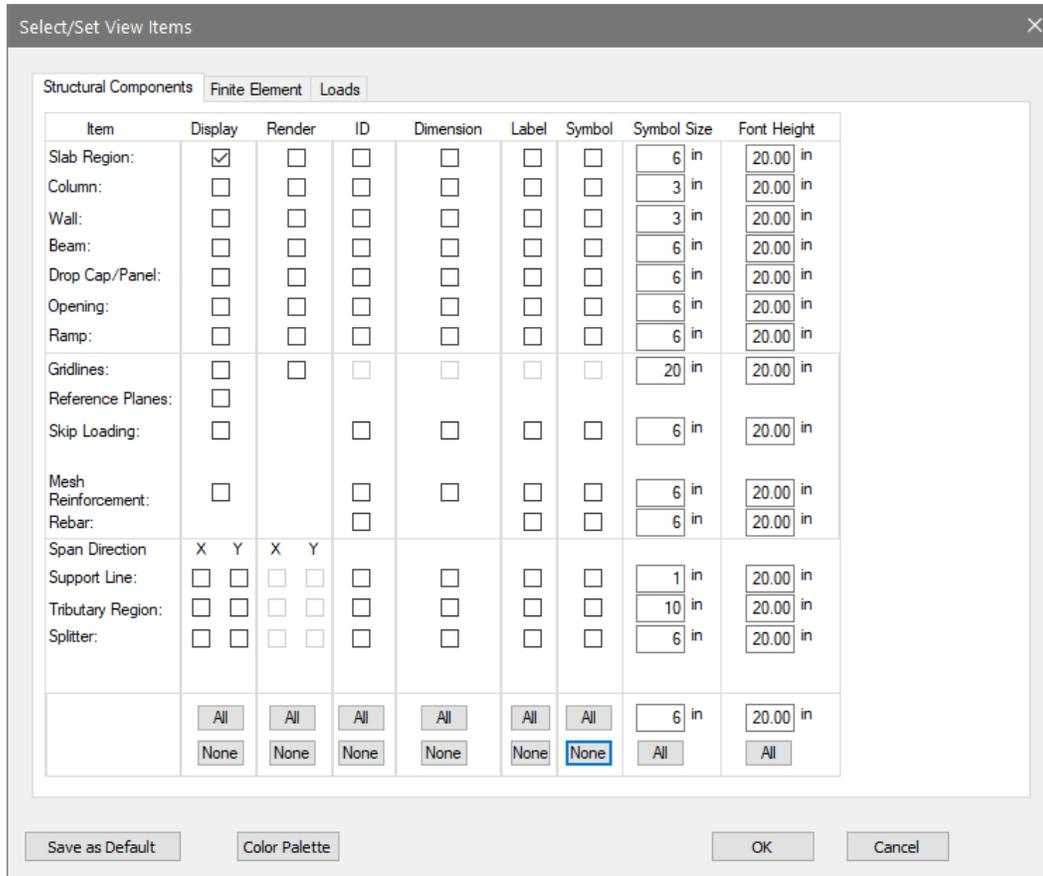

Figure 4-1
- On the *Structural Components* tab, make the selections as shown in **FIGURE 4-1**.